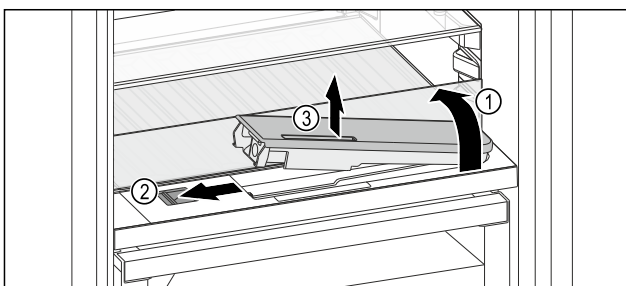

Fig. 116
- ▶ Lift the glass panel and fold to the back as far as it will go Fig. 116 (1).
- ▶ Slide the slider Fig. 116 (2) to the left.
- ▶ Remove the water tank Fig. 116 (3).